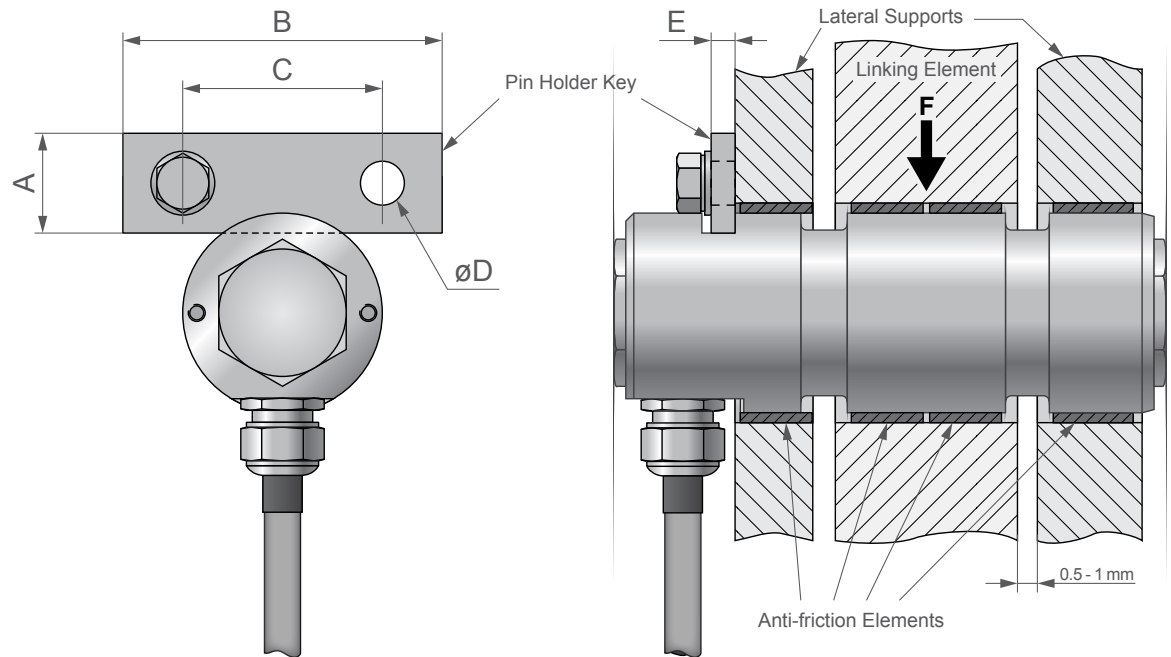

Fig.2-2 Instalation of the pin holder key
8. Machine the pin holder key to the dimensions given (see Fig.2-2). Bore and thread the fastening screw holes according to the specified dimensions (respect both bore and thread depth). The mortise on the load measuring pin is by 0.5 mm wider than the pin holder key. Thus no strain can be transmitted through the key to the pin itself.